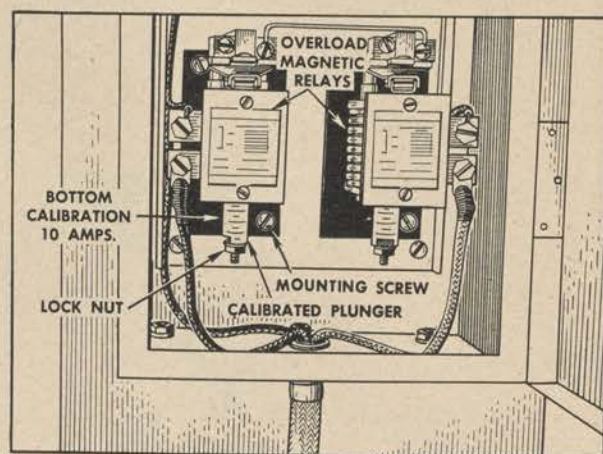

Figure 58. Capstan magnetic overload relays.
(11) *Capstan combination starter.* Prepare the capstan combination starter located in the forward capstan hatch for operation by adjusting the plunger core of the magnetic overload relay. Place the operating lever in OFF position to open the combination starter enclosure. (See fig. 254.) To adjust the magnetic overload relays for current setting, remove the lock nut and screw the plunger up into core until the calibrated line for 15 amperes is flush with the inside edge of the cap-washer. The plunger is calibrated with five lines from top to bottom. The top calibration is 30 amperes, the next is 25 amperes, and bottom is 10 amperes. Lock plunger in position with lock nut. (See fig. 58.)